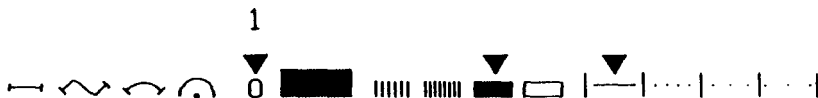

Fig 1
To select the NIB mode move the dynamic cursor straight down to the '0' on the palette, see (1) in Fig 1. A white triangle will appear to indicate selection, move the stick vertically up to avoid changing the selection.